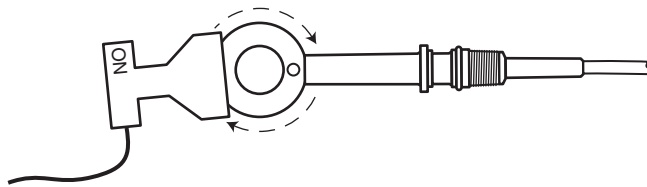

Figure 4.
2. Move the tool slowly around sensor donut in close proximity to it for about one minute. See Figure 4.